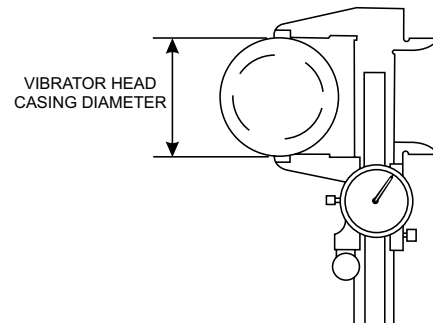

Figure 10. Vibrator Head Diameter
- Periodically measure the outside diameter (Figure 10) of the vibrator head casing.